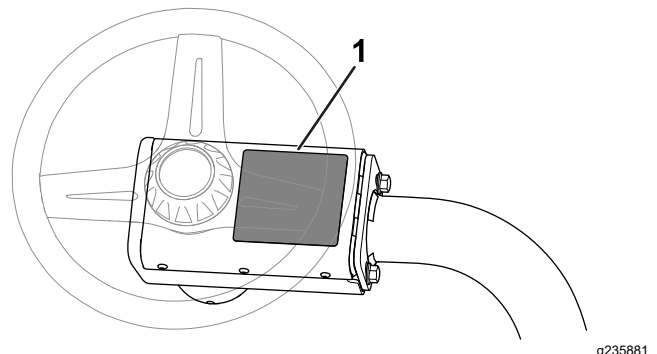

Figure 8
- Apply the CE warning decal (Part No. 136-8505) over the existing warning decal (Part No. 136-8506). Figure 8 shows the warning decal location.